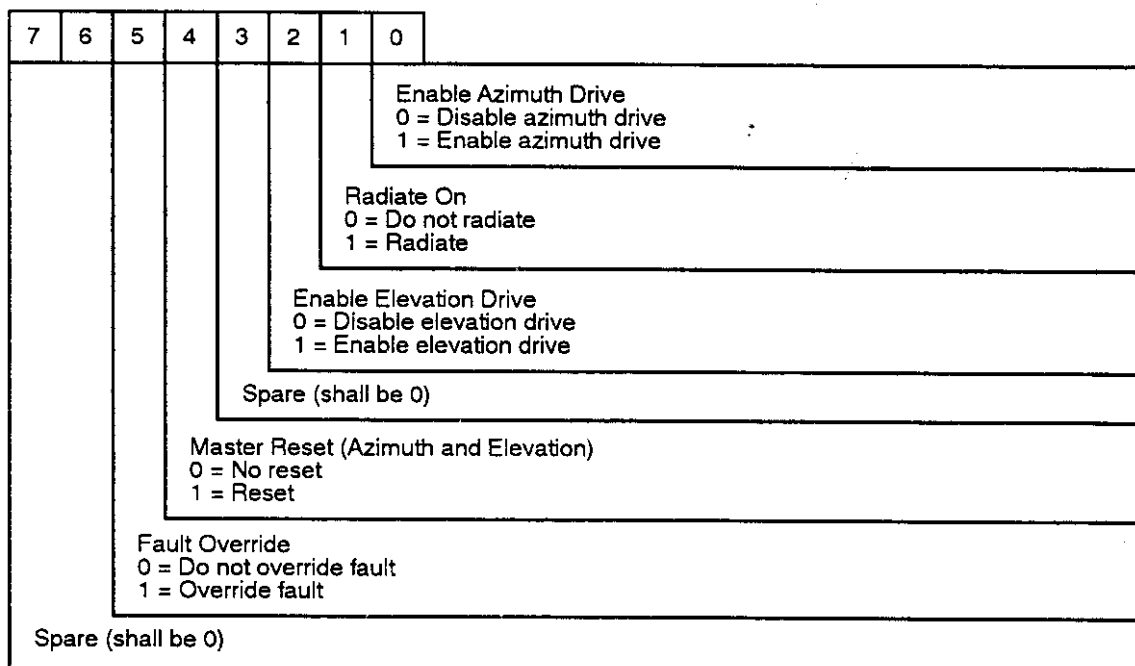

Figure 22. TAC to Antenna Command Word.
- Word 4: Command (see Figure 22)